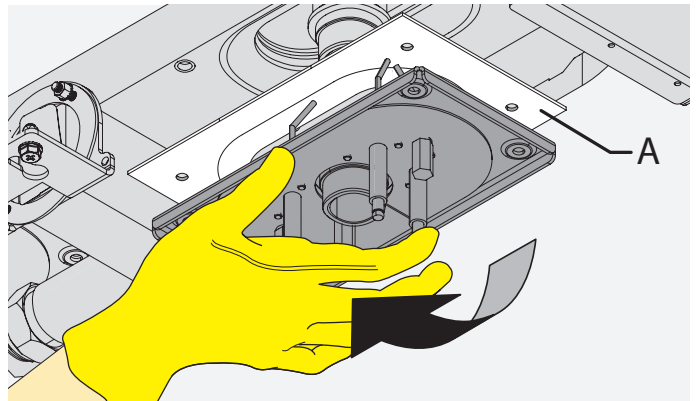

Figure 8
- d) Remove the torch by sliding sideways as shown in the Figure 8. In case of countertop oven, lift the oven (about 2 cm) and slide the torch sideways.